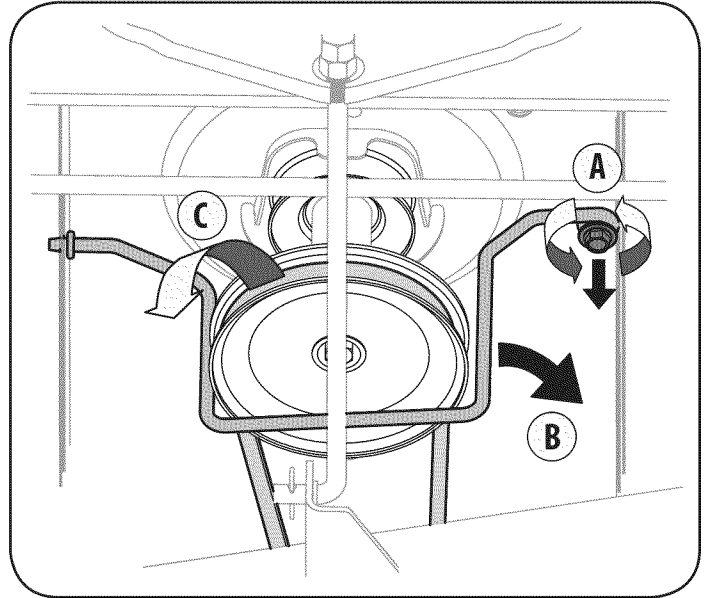

Figure 19
3. Remove the self-tapping screw (A) that secures the belt-keeper rod from around the tractor's PTO pulley, then remove the belt keeper rod (B). See Fig. 19.
4. Remove the belt (C) from around the tractor's PTO pulley. See Fig. 19.